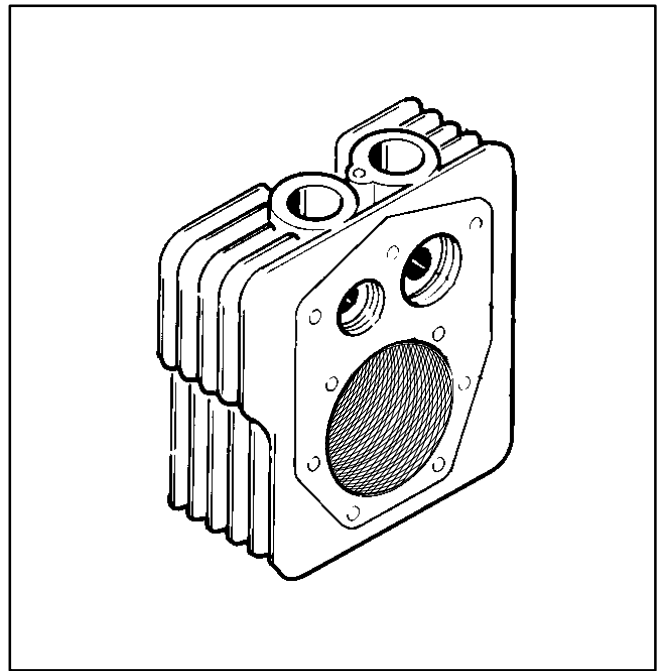

FIGURE 7-38. CROSSHATCH IN CYLINDER BORE
The available oversize pistons and rings will fit with the required clearance in cylinders machined to the matching oversize (standard bore plus 0.005, 0.010, 0.020, 0.030 and 0.040 inch). There is no need to adjust or to "fit" pistons and rings. Piston and ring size should be checked as described below to confirm that they are correct for the standard bore oversize. Boring and honing must be accurate and remove just enough metal for the smallest oversize possible. The finish hone should leave a 20 to 40 micro-inch crosshatch finish having an included angle of 20 to 25 degrees. See Figure 7-38.
3. Drive the tool with a slow-speed drill. Move the tool up and down in the cylinder bores fast enough to obtain the crosshatch pattern shown (Figure 7-38). Ten to twelve strokes should be sufficient.